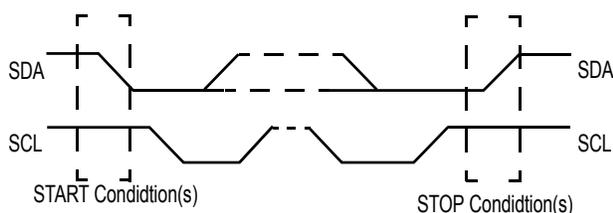

Figure 1. The START and STOP Condition of an I²C Bus
The I²C bus protocol defines unique START (S) and STOP (P) conditions (see Figure 1).